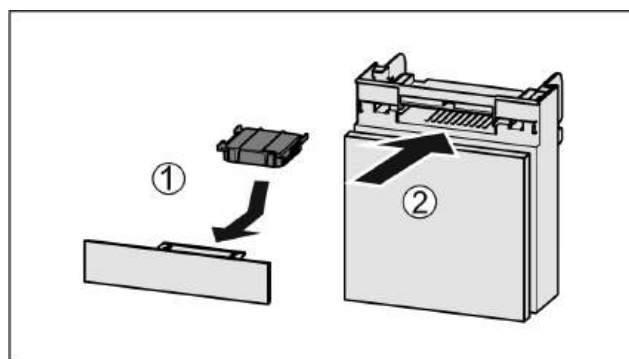

Fig. 144
- ▶ Insert the carbon filter as shown in the diagram Fig. 144 (1).
- ▶ Push the compartment in Fig. 144 (2).